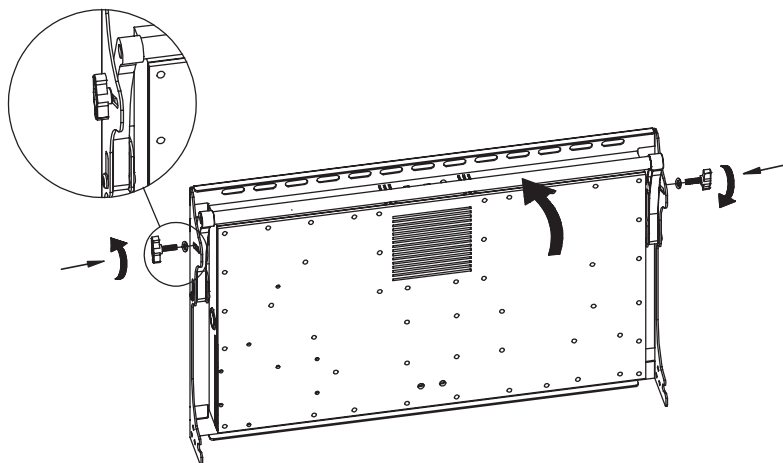

Figure 9 - Replace Upper Pole
Lift the upper pole and screw it back into place using the two T-screw handles (D) (Figure 9).